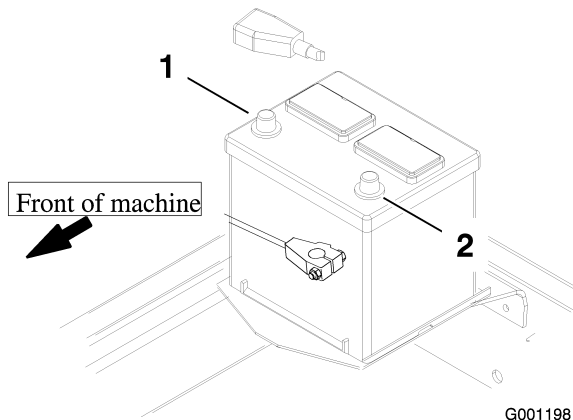

Figure 10
8. First, install the positive cable (red) to the positive (+) terminal and then the negative cable (black) to the negative (-) terminal of the battery (Figure 10). Slide the rubber boot over the positive terminal to prevent a possible short from occurring.